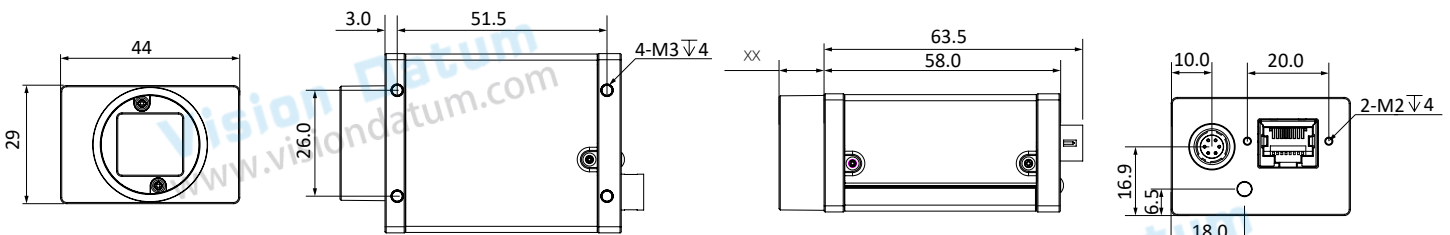

Fig. 1-4: Mechanical Dimensions (in mm) for GigE Cameras with four-sided mounting 29 \* 44 \* 58mm flat housing.
- GigE Cameras with 29 \* 44 \* 58mm flat housing are as shown in Figure 1-4.